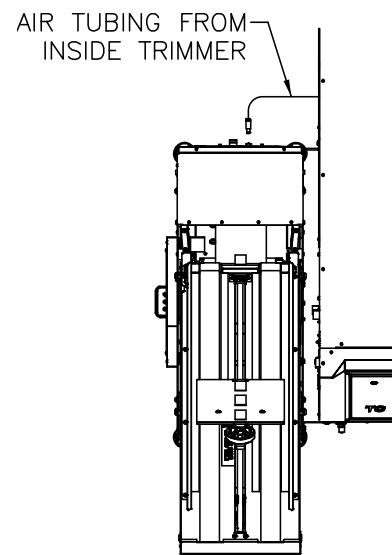

Figure 2-22. Air Tubing Connection
7. Connect the air tubing as shown in Figure 2-22.